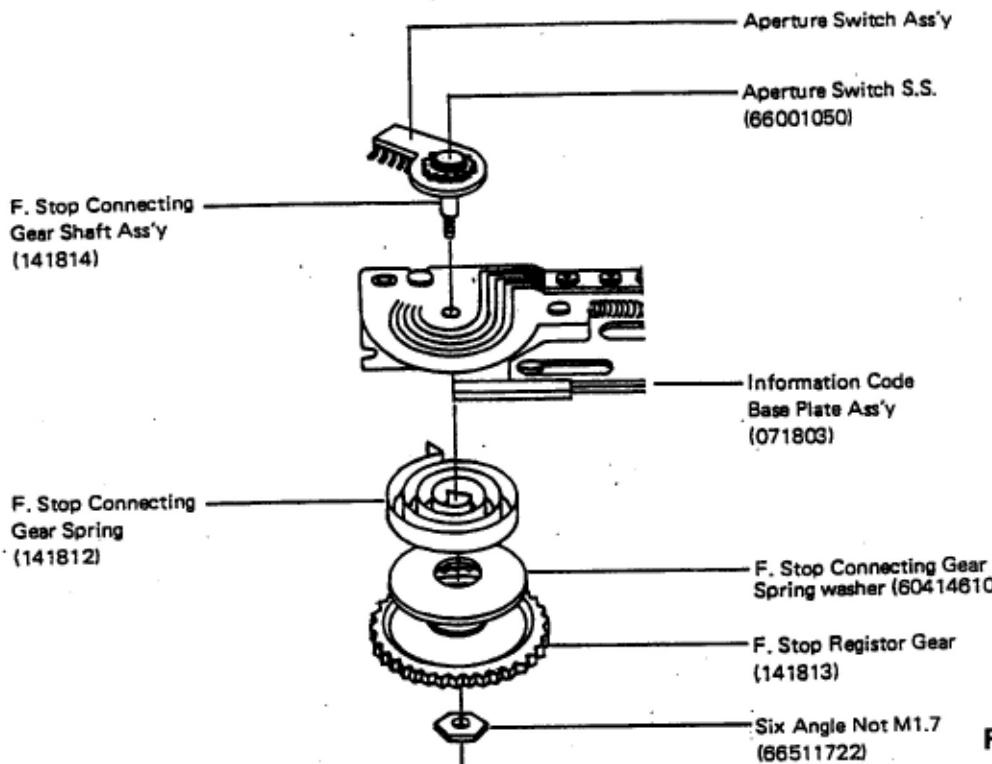

Fig. 47
a) See (fig. 47) which is self-explanatory.